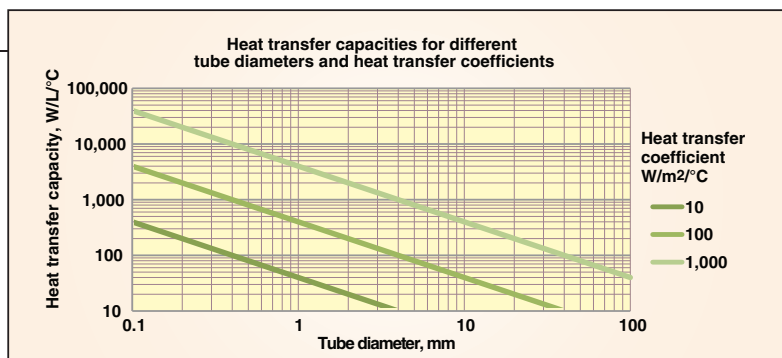

FIGURE 4. Cooling capacities for different tube sizes and heat-transfer coefficients are shown here
The amount of heat that can be transferred per unit volume of product (Q) is inversely proportional to tube diameter (D). This means that the tube diameter needs to be small enough to cope with the process heat load. Cooling capacities for different tube sizes and heat transfer coefficients are shown in Figure 4.